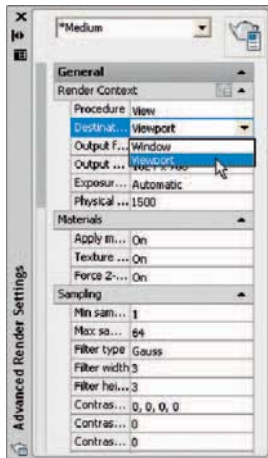

Fig. 15.24 The Advanced Render Settings palette
8. In the **Render Context** field *click* the arrow to the right of **Window** and in the pop-up menu which appears *click* **Viewport** as the rendering destination (Fig. 15.24).